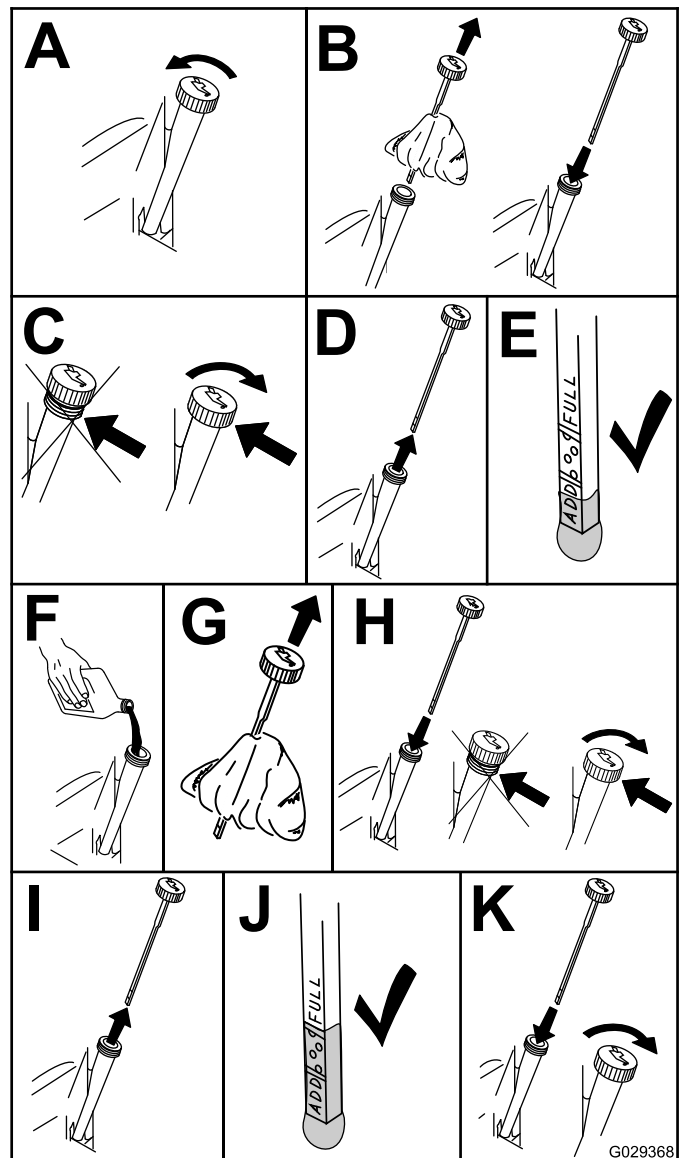

Figure 34
4. Check the engine-oil level (Figure 34).